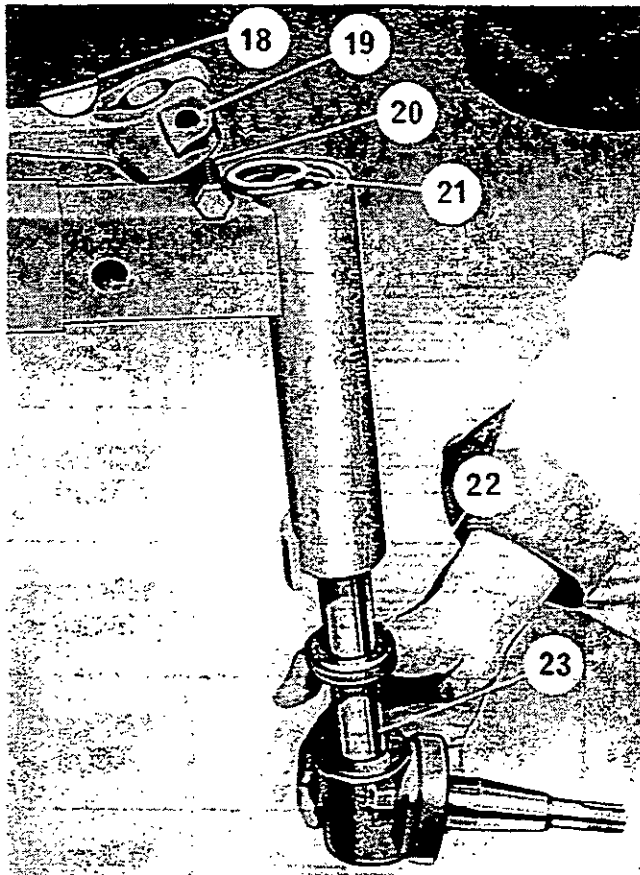

FIG. 5
2. Fig. 5. Remove the bolt (20), nut and washer securing the spindle arm (19) and detach the arm from the spindle shaft (23).
3. Remove the key (18) and the seal (21) from the spindle shaft.
4. Lower the spindle shaft (23) and bearing (22) out of the housing.